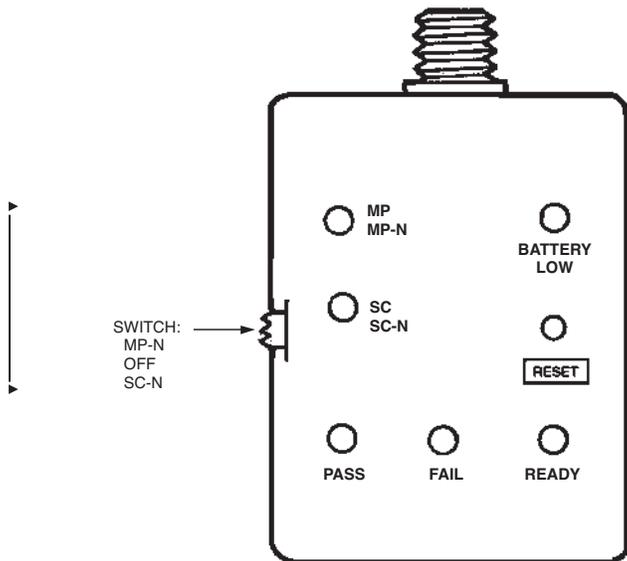

FIGURE 52
▶ Operation is as follows (see Figure 52):